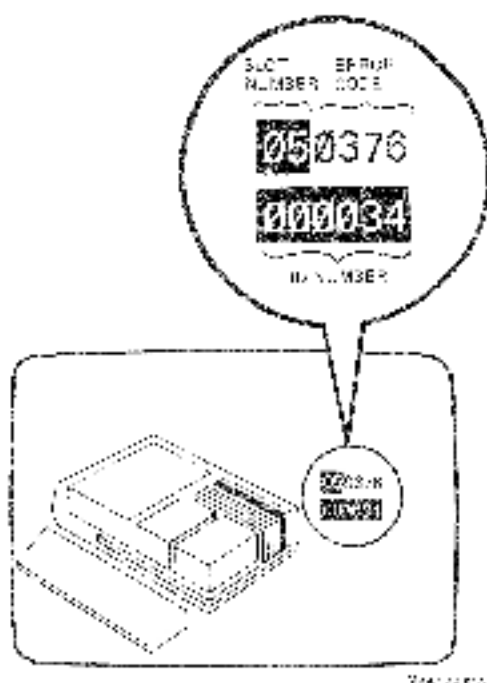

Figure 1-2 Self Test Display
The system image with highlight only display means the power-up self-test found a problem, but the system has not yet. To troubleshoot, find the Ident Section (ID) number and error code in the message. Figure 1-2 shows the location of the codes. Table 1-5 lists each ID number, the error code(s) for that ID, and the corrective action to take.